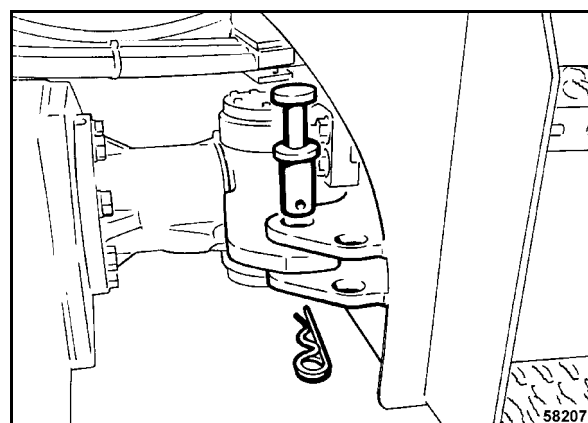

Fig. 53
- Attach the articulation lock (Fig. 53).